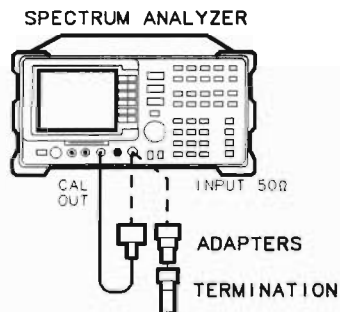

Figure 2-73. Displayed Average Noise Level Test Setup for Option 130
1. Connect a cable from the CAL OUT to the INPUT $50\ \Omega$ of the spectrum analyzer as shown in Figure 2-73.